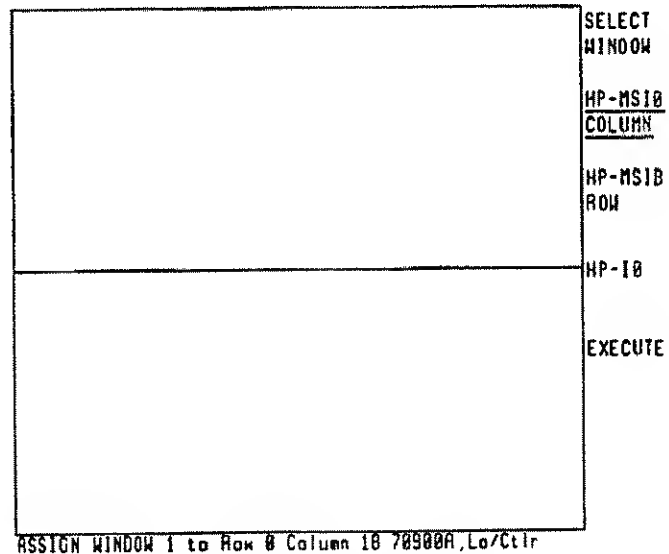

Figure 2-21. Building the First Window
2. Press **HP-MS1B COLUMN** and turn the knob until the bottom line on the screen shows that an HP 70900B Local Oscillator module has been found, as in Figure 2-21 (the factory default address is 0,18).